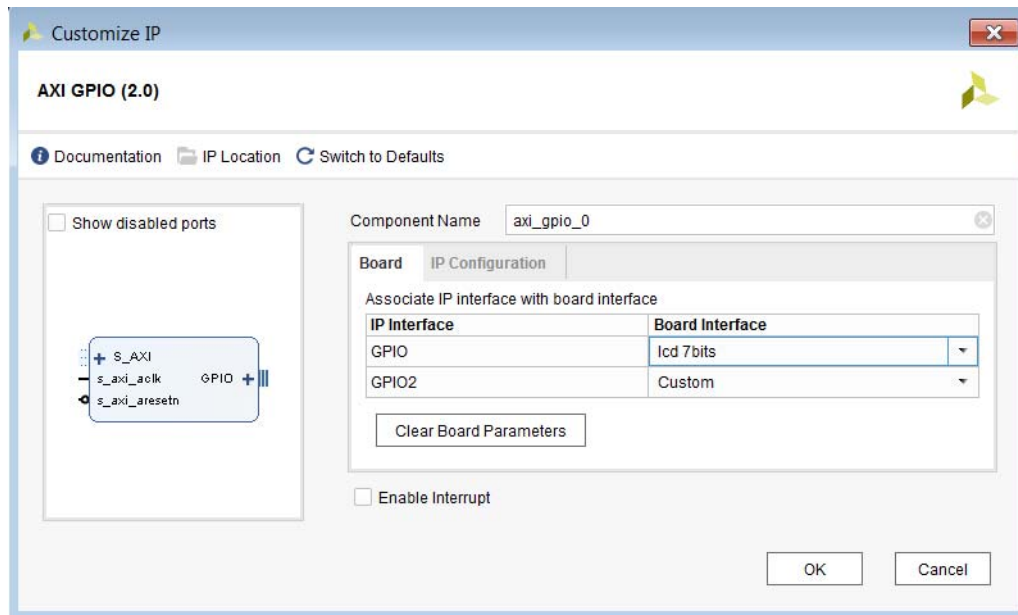

Figure C-5: Board Interface Selected
**Figure C-5** shows the XDC constraints created for the GPIO IP when you connect the **GPIO** interface to the board **lcd7bits** interface and the connect the **GPIO2** interface to the board **Custom** interface.